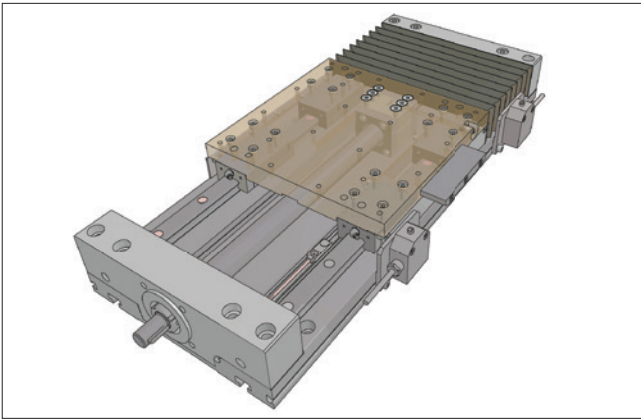

Figure 5.9 \_\_ AXLT with switches
- Optional inside placed inductive switches (Figure 5.9)